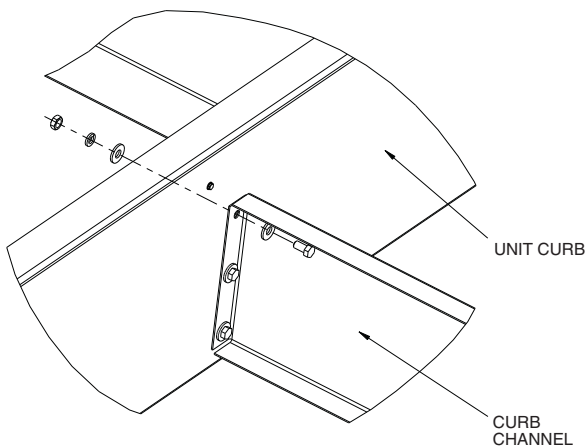

Fig. 21 — Fasten Cross Supports
3. Fasten cross supports, when required, per the drawings with supplied screws as shown in Fig. 21.